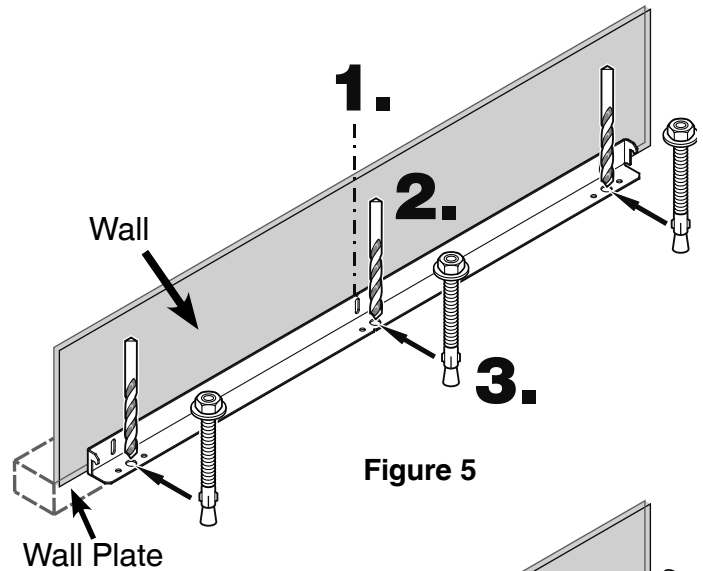

Figure 5
Mounting the anti tipping device on concrete floors - Figure 5 - 6
2. Drill a 3/8" diameter hole in any position as shown in Figure 5 using a carbide drill bit.